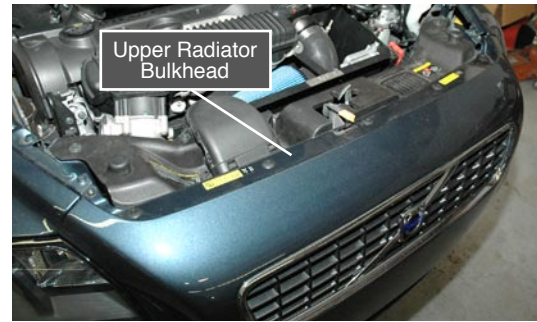

Figure 2.4
- Using the T20 Torx bit remove the two (2) fasteners from the upper radiator bulkhead (see Fig. 2.4).
- Carefully remove the five (5) plastic rivets securing the front fascia to the upper radiator bulkhead (see Fig. 2.4). Please note, these rivets are designed to be reused. Using a Phillips screwdriver press the center section of the rivet down approximately 1/8", until you feel a click, when the rivet has released. Once released, you may extract the rivet from the hole. Repeat for all rivets.